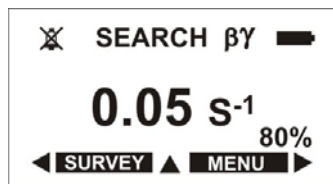

Figure 2.28
- "DISABLE BEEP" - – after choosing this line (Figure 2.28.) the audible signal average impulse counting rate of the registered β - γ -radiation will shut off in the "SEARCH $\beta\gamma$ " mode;
- "ENABLE BEEP" - – after choosing this line (Figure 2.28) the audible signal of the average impulse counting rate of the registered β - γ -radiation will switched on in the "SEARCH $\beta\gamma$ " mode;